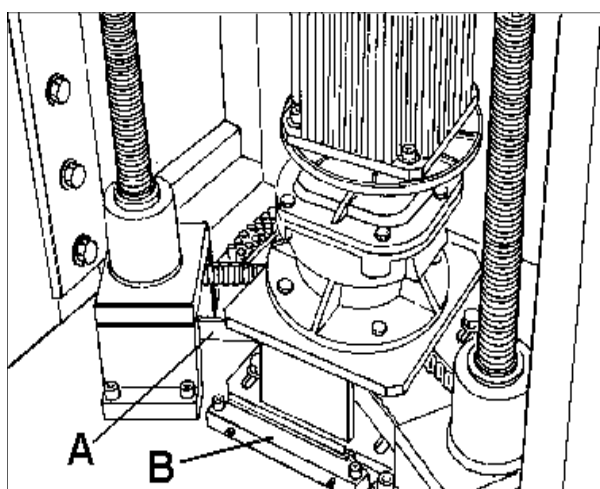

fig.7.4
- b.4) **DELTA 90-90PLUS only** . Check the tension of the raising belts (A) by means of a turnbuckle (B), (see fig.7.4).